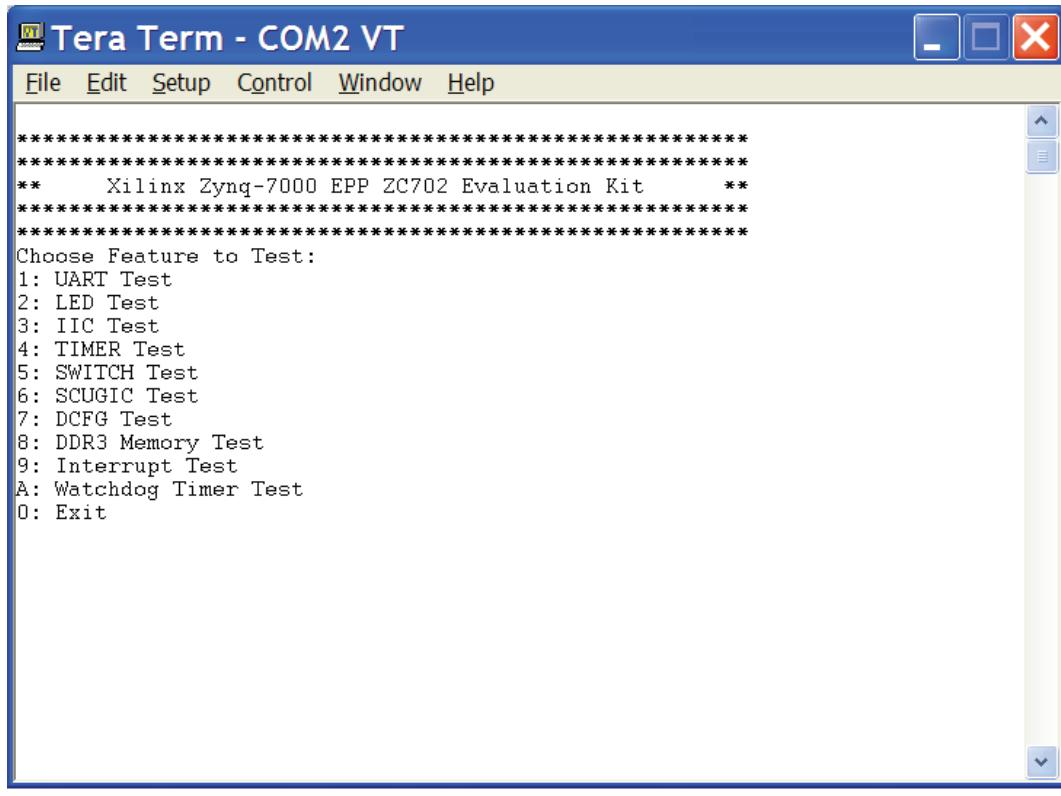

Figure 2-7: BIST Main Menu
2. Press POR_B (SW1) located in the top left corner of the ZC702 board and view the BIST output on the terminal window (Figure 2-7).